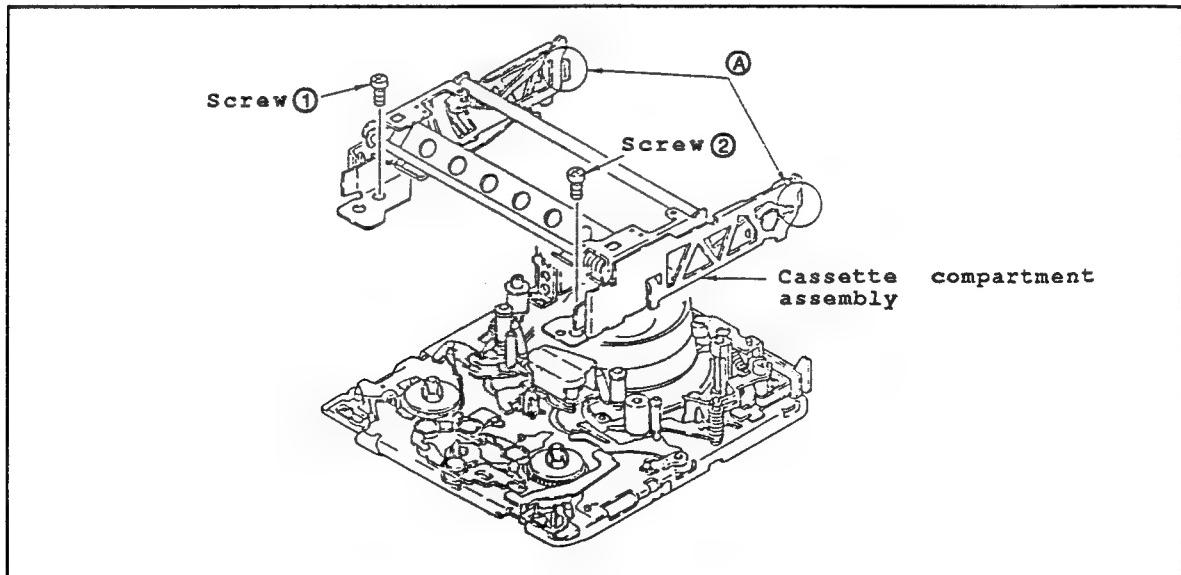

Fig.II-1
1-2 Removal of cassette Compartment Assembly (Fig.II-1)
- (1) Remove setscrews ① and ②.
- (2) To detach cassette compartment assembly, slide the assembly a little toward you. (Ⓐ parts in Fig.II-1 detached)